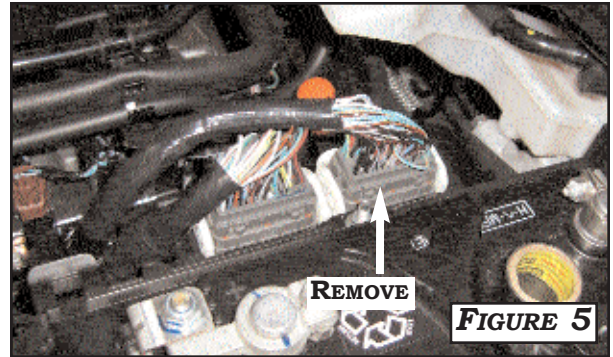

FIGURE 5
1. IF WHITE WIRE WAS NOT PRESENT AT THE CLOCK-SPRING CONNECTOR, REMOVE THE PCM CONNECTOR (CLOSEST TO FIREWALL) AS SHOWN IN **FIGURE 5**.